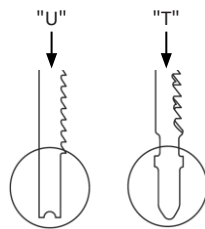

Fig. 7
- There are two kinds of blade head, as shown in fig. 7. Always select blades with a "T" type head for this tool.